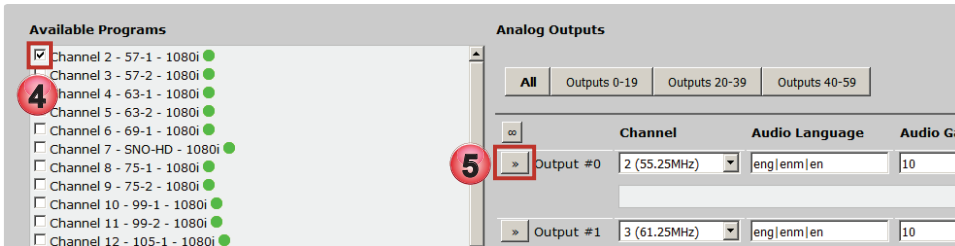

Figure 6-6: Select and Assign a Program
4. Click one **Tick Box** to select any single program to be assigned, Figure 6-6.